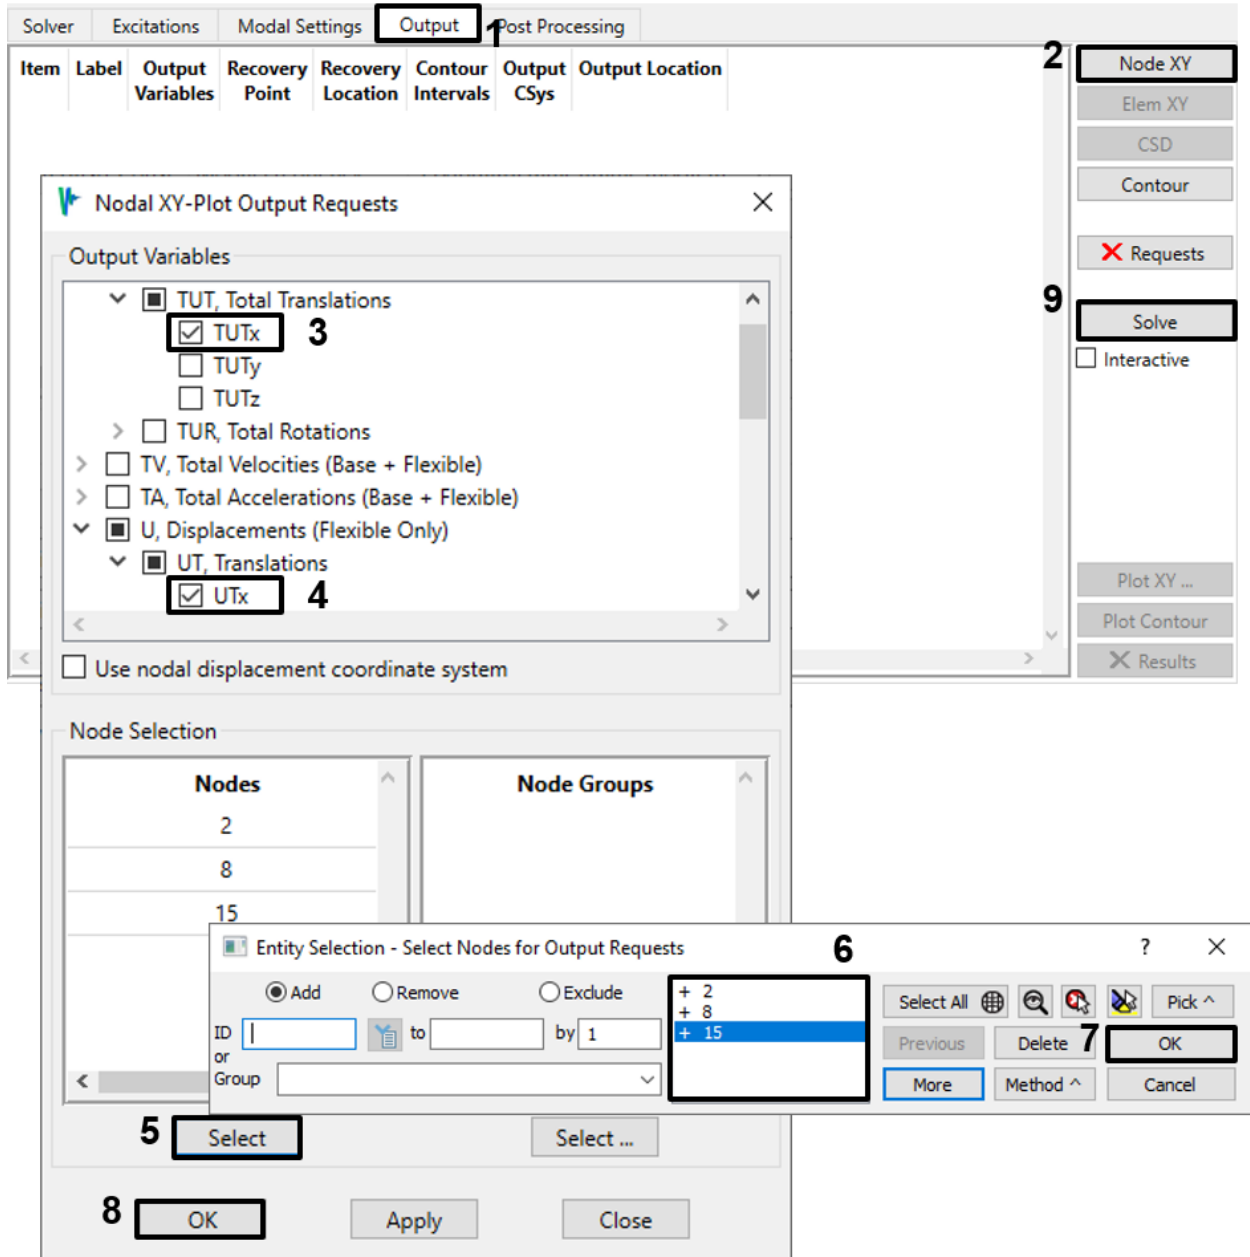

Figure 4-32. Request both flexible and total nodal X-translation plots.
- On the *Output* tab, create a Node XY output request for flexible and total X-translations ( $TUT_x$  and  $Utx$ ) for the center base (node 2), center second floor (node 8) and upper right corner (node 15), as shown in Figure 4-32.